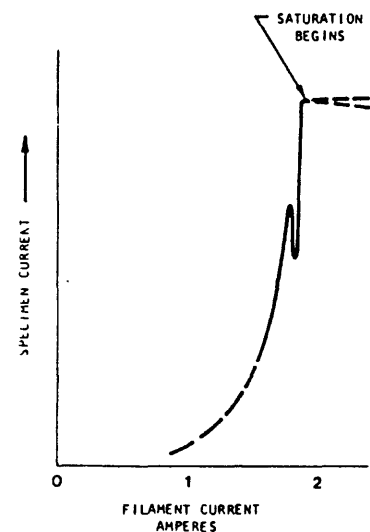

Fig. 5 - "Typical" filament saturation profile.
- 6.4- As you turn the filament voltage higher, a beam current signal should appear on the Picoammeter. Continue centering the filament (with the gun centering screws), maximizing the beam current signal, and re-saturating (usually by increasing the filament voltage) until you have reached the saturation plateau, as with the normal filament saturation procedures (be sure you have gone over the "false" peak). Saturation and centering of a new filament usually takes several iterations. The filament current meter will read 1.8 - 2.0 amps, no higher. New filament saturation will usually have a filament voltage dial reading of 600 - 640. A properly installed and centered filament will have a saturation profile similar to that shown in Figure 5.